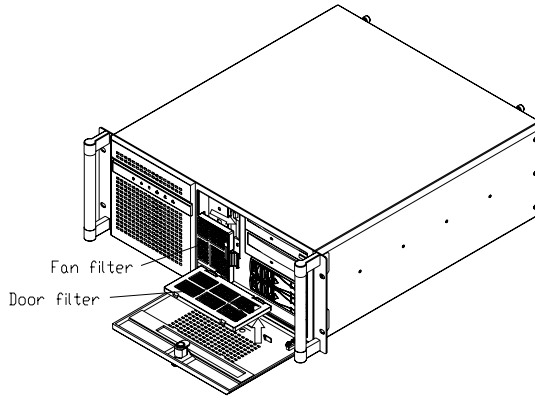

Figure 3.4: Removing the filters
3. Clean the filters with a soft brush or wash the dust away from the filters under running water. Then dry it. (see Figure 3.4)